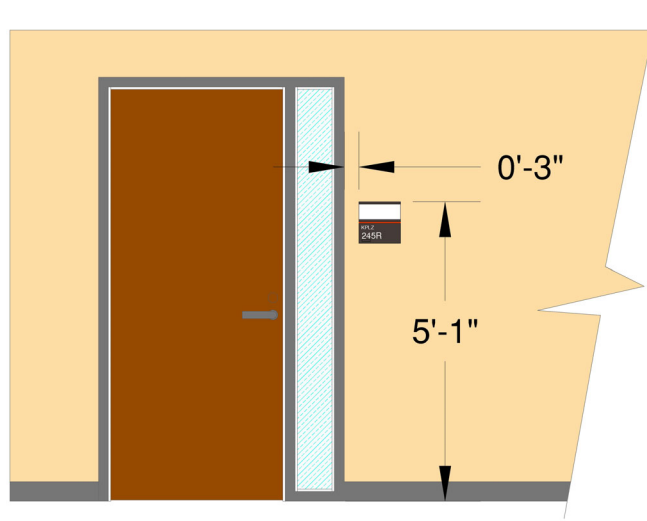

Figure 30.6
- 30.6. Room identification sign installation, for sidelights that are less than 18 inches wide, shall comply with figure 30.6